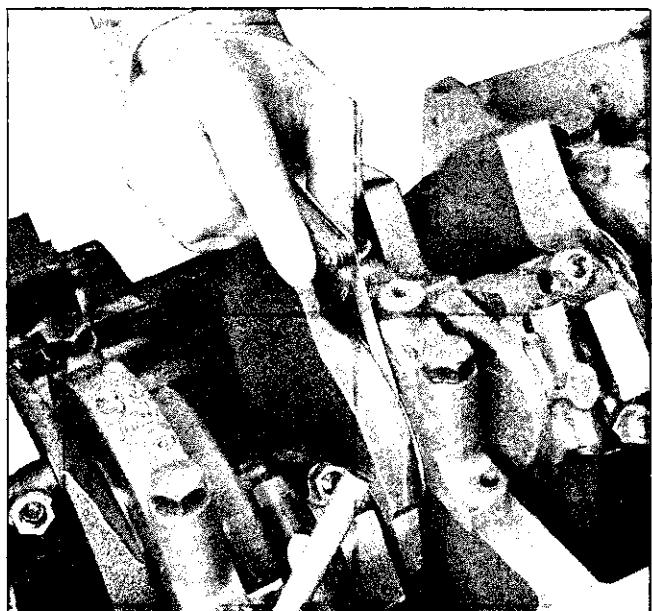

Fig. 6-125 Measuring Crankshaft End Play
1. Check endplay (Fig. 6-125). Using hammer, tap end of crankshaft at rear until it is tight against front of thrust bearing (No. 4 main bearing). Measure clearance between crankshaft counterweight and thrust bearing. Proper clearance is $.003"$ to $.009"$. If clearance is outside these limits, a new thrust bearing is required.